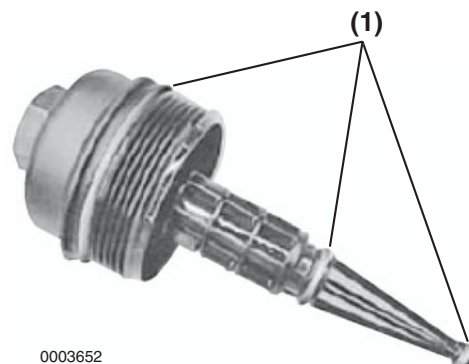

Figure 4-2
7. Replace the three O-rings (Figure 4-2, (1)) on the stem.